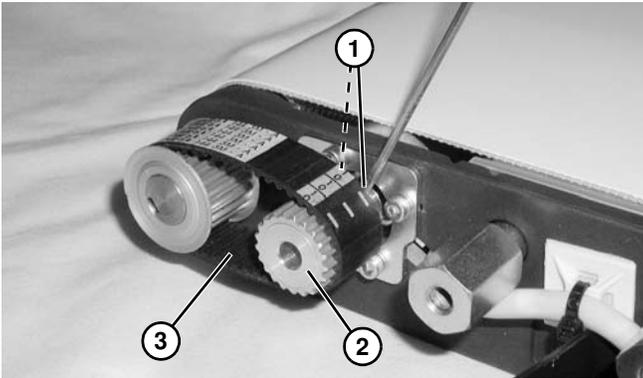

Figure 128
- Loosen two set screws (Figure 128, item 1) on drive pulley (Figure 128, item 2). Slide drive pulley outward off of gearmotor shaft and remove timing belt (Figure 128, item 3).